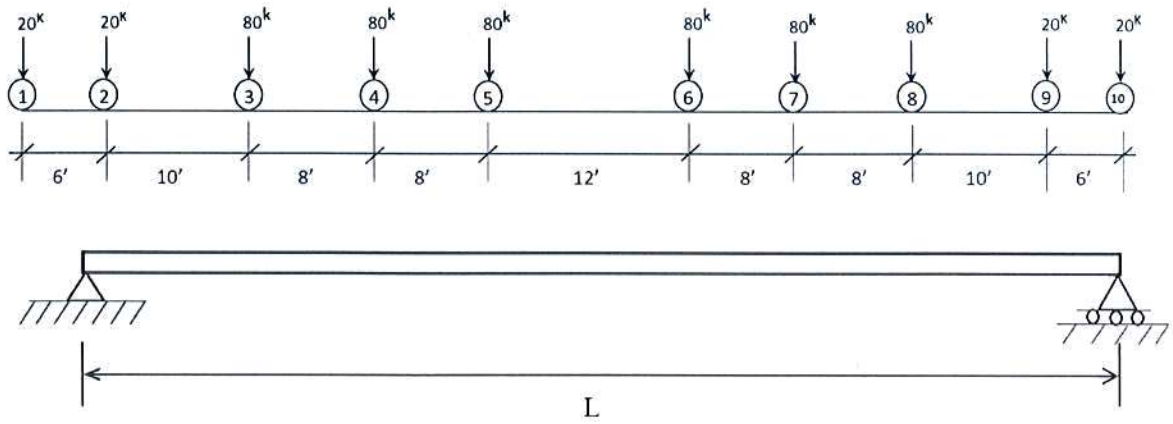

Fig:3
3. Calculate the Maximum Bending moment at  $L/3$  from left support of a simply supported Beam (12) of  $L$  feet for the Wheel Load shown in Fig 3.
4. Calculate the Maximum Shear force at Quarter point from left support of a simply supported Beam of  $L$  feet for the Wheel Load shown in Fig 3. (13)